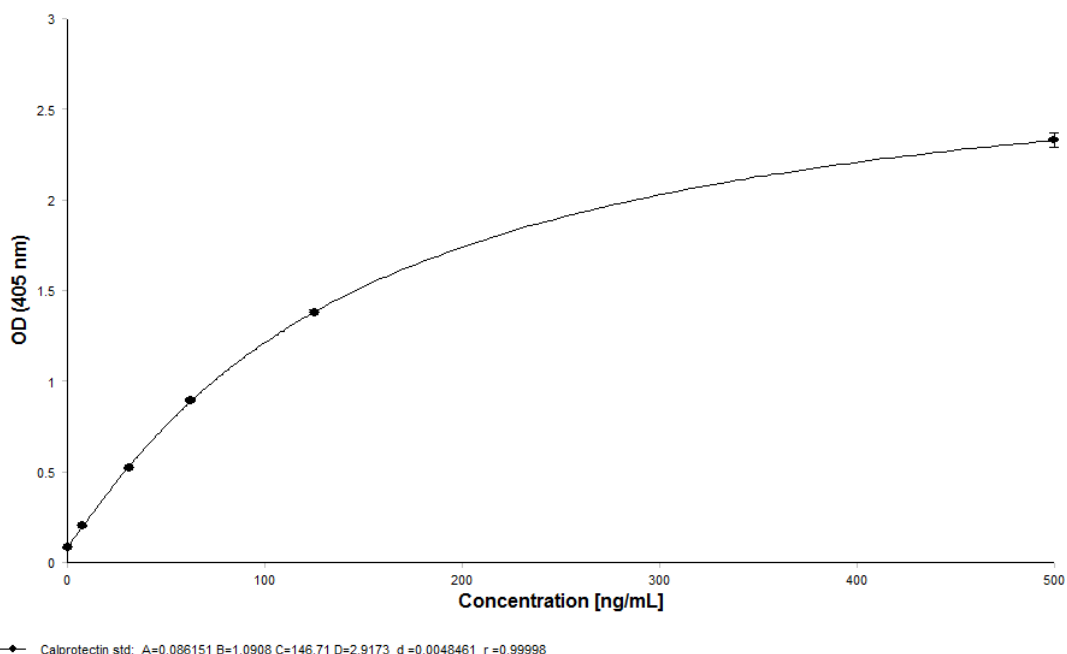

Figure 1: A representative standard curve using 4-parameter curve fit.
- The OD value of Standard F (500 ng/mL) should be ≥ 1.6 and the OD value of Standard A (0 ng/mL) should be ≤ 0.25 . A representative standard curve is shown in figure 1.
2. Plot the value of each standard concentration (ng/mL) on the x axis against its mean OD value on the y axis to obtain a standard curve. **A 4-parameter curve fit function is recommended** (see figure 1 below). If a logarithmic x axis is required, a value of 0.001 ng/mL must be used for standard A (0 ng/mL).